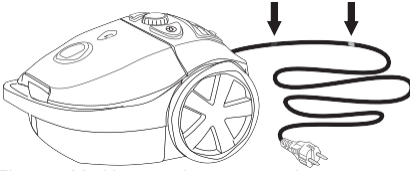

Figure 5 Markings on the power cord
- The power cord has a yellow and red mark, see Figure 5. Pull out the cord to the yellow mark.